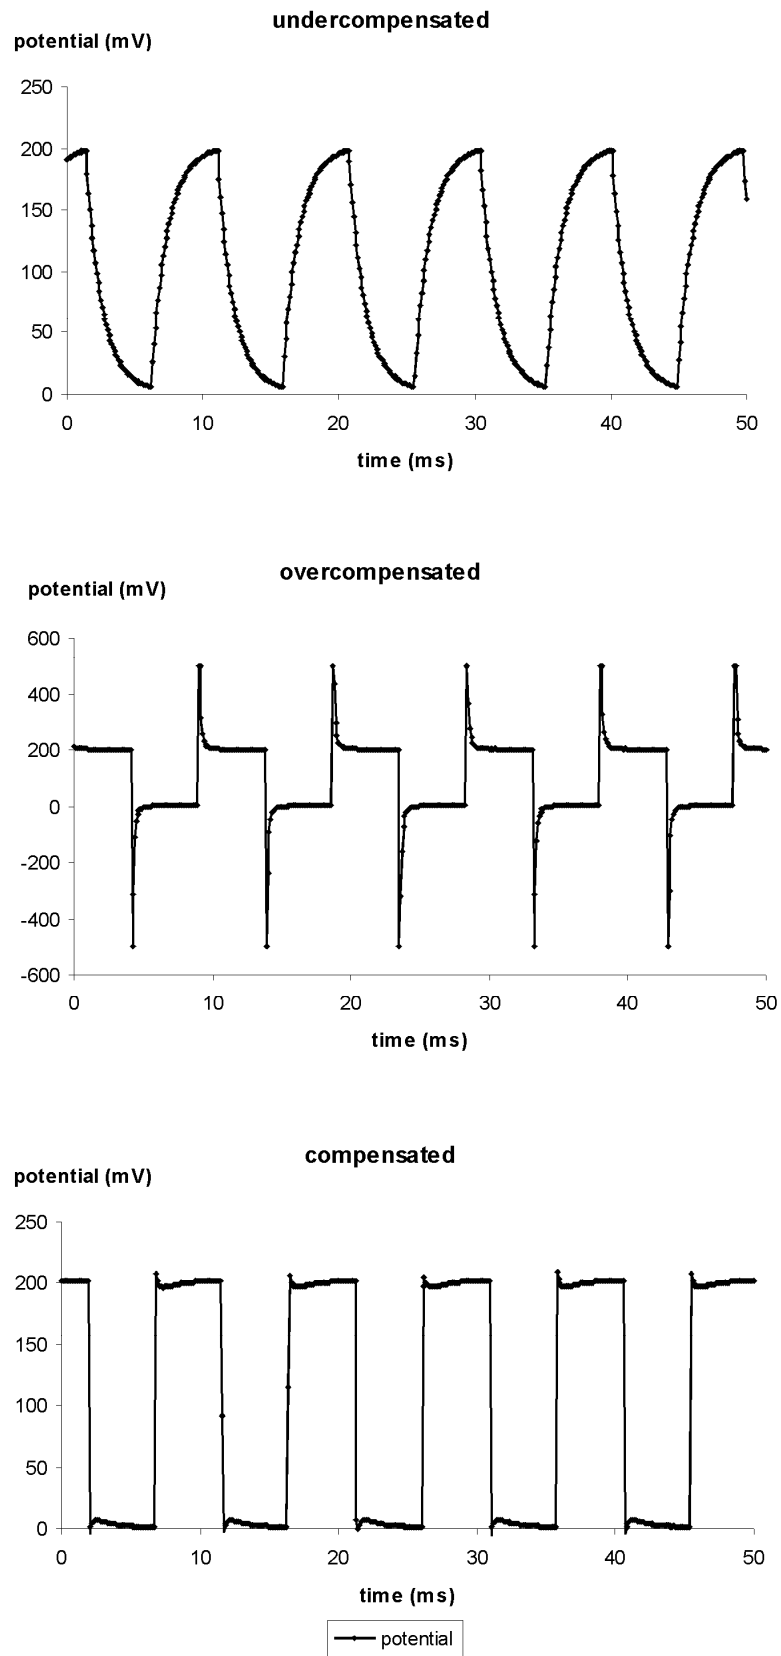

Figure 9: Tuning of the capacitance compensation using a 100 M $\Omega$  resistor
With the cell model connected or the electrode in the bath the CAPACITY COMP. control is turned clockwise until there is no artifact on the POTENTIAL OUTPUT (see Figure 9).
- ❑ Compensate the input capacitance as shown in Figure 9 using the CAPACITY COMP. potentiometer (#17, Figure 1).
Figure 9 illustrates the capacitance compensation procedure using a 100 M $\Omega$  resistor that represents the electrode. The pulses were generated using the automated electrode resistance test circuit of the BA-01X. The upper diagram shows an undercompensated capacitance. In the diagram in the middle the capacitance is slightly overcompensated and in the lower diagram it is well compensated.
- Immerse the electrode into the bath (not in a cell) as deep as necessary during the experiment. Test the capability of the electrode to carry current (see chapter 7.4), compensate the potential offset (see chapter 7.2), measure the electrode resistance (see #10, chapter 3.2) and compensate the input capacitance (see chapter 7.3 and Figure 9).